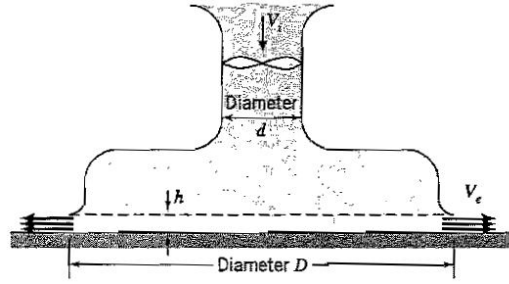

Figure P4.47
4.47 A circular hovercraft, of weight Mg , hovers a distance h above the ground, as shown in Figure P4.47. Far from the inlet the air is at atmospheric pressure and may be considered stationary. The air density remains constant throughout. The expansion downstream of the fan occurs without loss, and the exit streamlines are parallel to the ground. Find h in terms of the inlet velocity V_i , the diameter of the fan d , the diameter of the exit plane D , the density ρ and the weight Mg . Assume one-dimensional flow over the entry and exit areas.